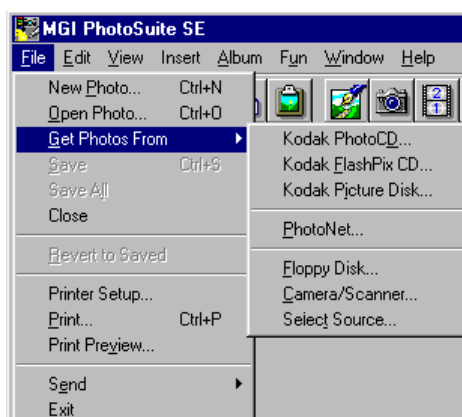

Figure 10: Setting up the scanner
5. Select 'Select Source'. See figure 10. A list of available scanners is displayed.
5. Select 'Camera/Scanner...'. See figure 10.